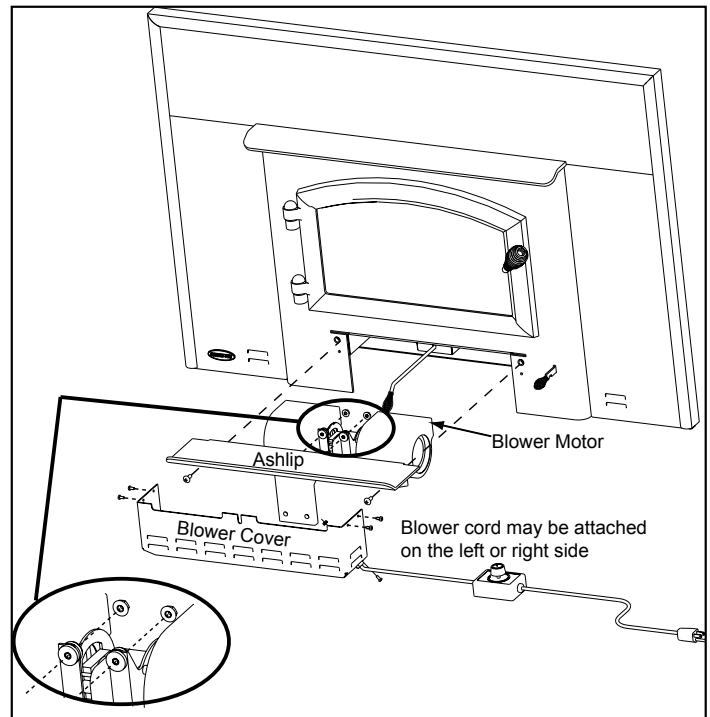

Figure 14.2
3. Remove the 4 nuts from the housing and attach the blower using the same 4 nuts. See circled area in **Figure 14.2**